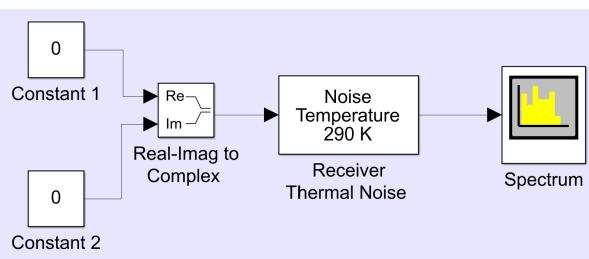

Fig. 13: Thermal noise
- 7) To better understand the thermal noise, we built connected these blocks as shown in Fig. 13. Our parameters were set up as listed below: